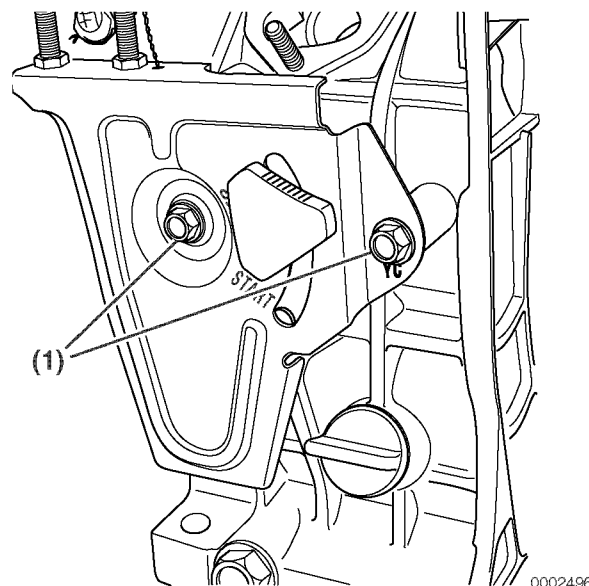

Figure 6-82
1. Remove the bolts (**Figure 6-82, (1)**) that retain the speed control assembly.